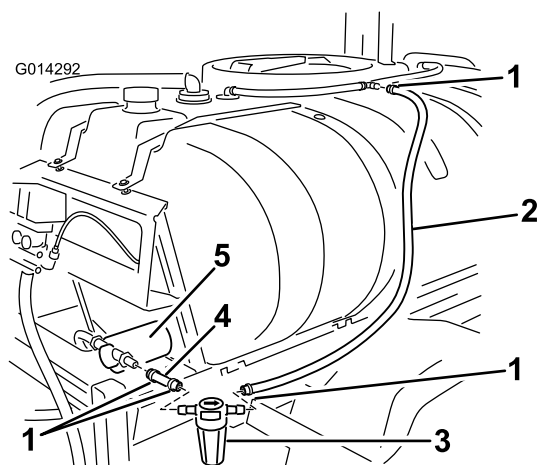

Figure 22
5. Install the hose to the open end of the tee fitting installed previously (Figure 22).